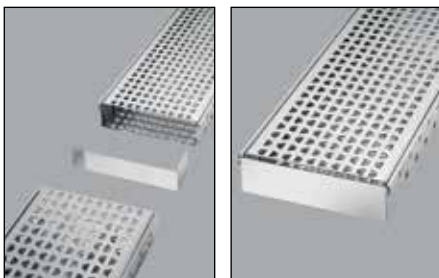

Fig. 1 Fig. 2
4. If several channel elements are to be combined, they can be connected with the U-shaped parts (see Fig. 1). The same U-shaped parts can also serve as end caps (Fig. 2).